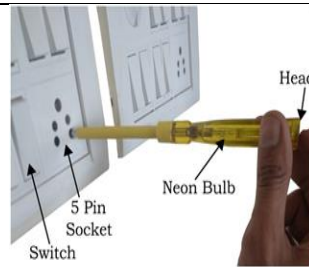

Fig. 1.53 Verification of phase and neutral ports using the phase tester
Step 1. Observe the neon bulb in the tester, which will indicate the phase terminal. If the neon bulb turns ON it shows the phase terminal in the socket. Opposite to it will then be considered a neutral terminal. Figure 1.53 illustrates the verification of phase and neutral.